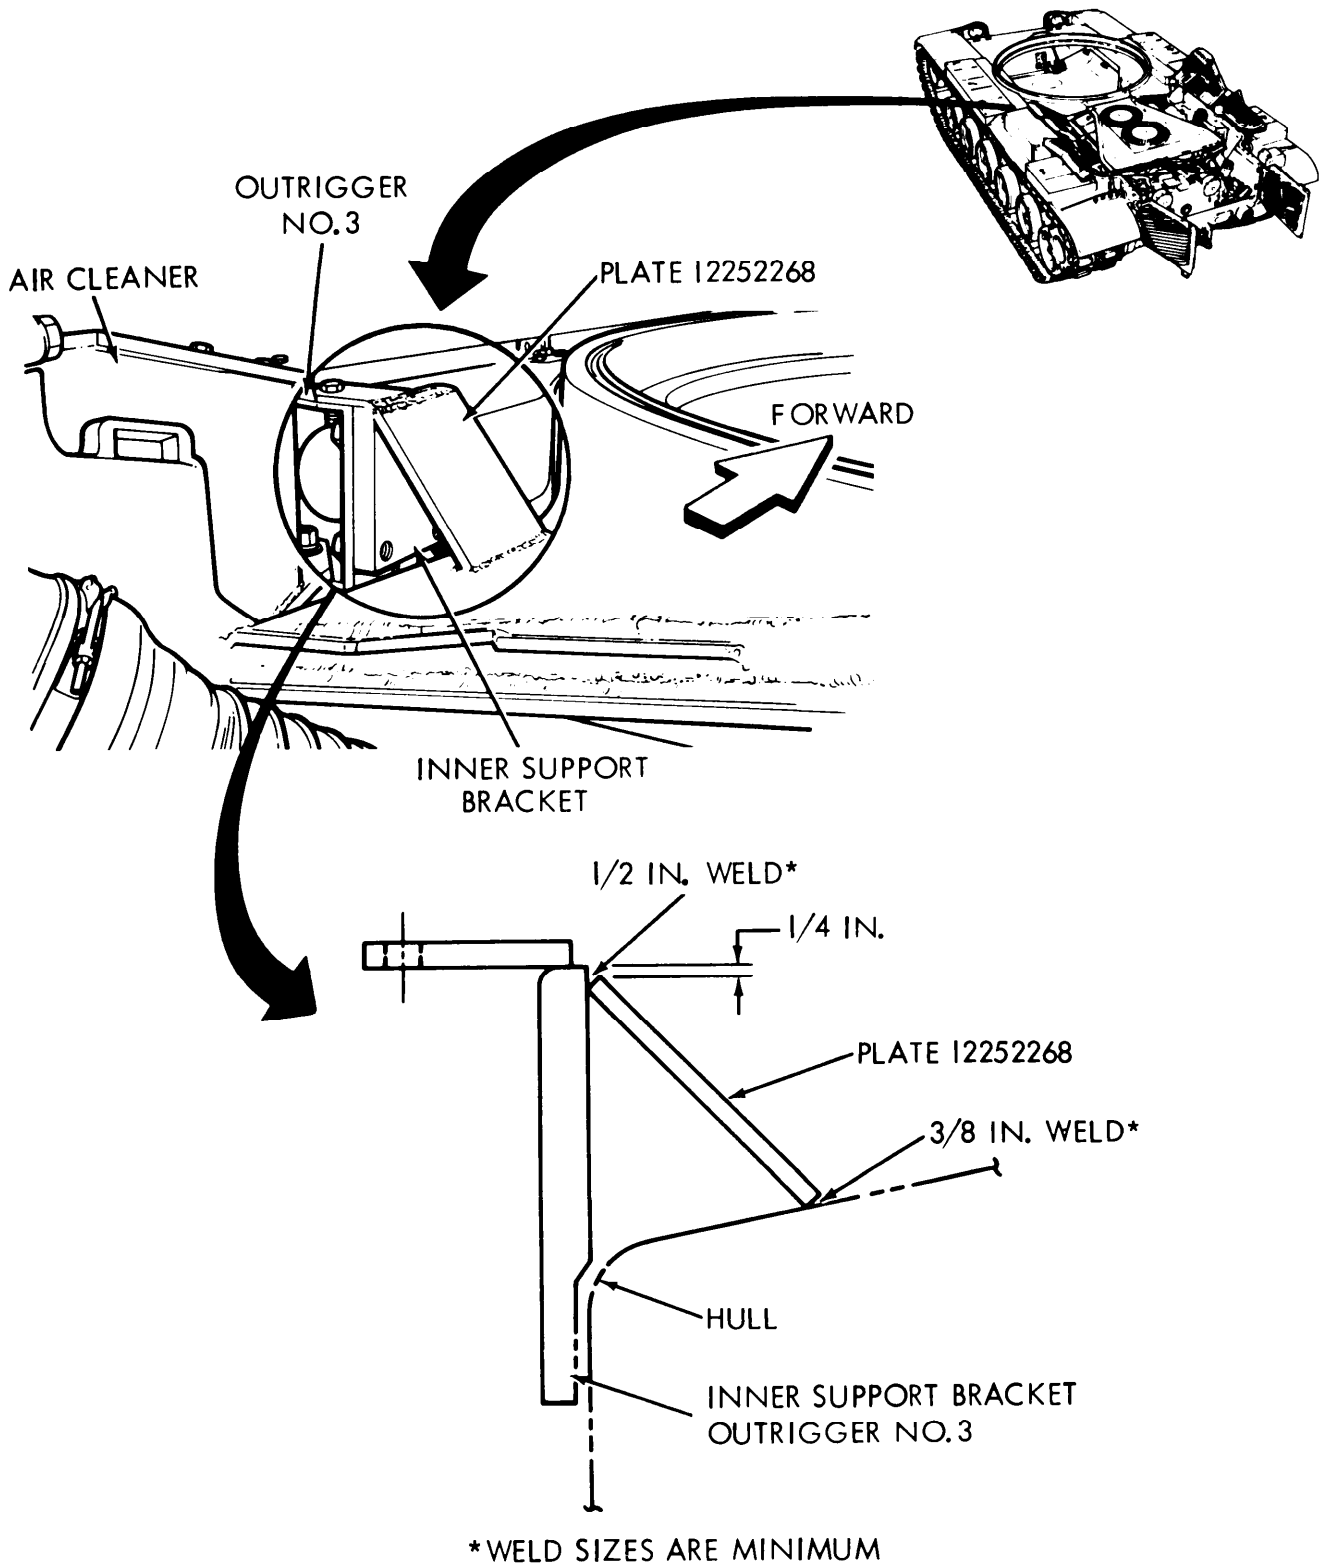

Figure 4-19. Left outrigger support plate installation.
- All welds must be performed to MIL-W-46086 (MR), Method 1. Use austenitic electrodes only (308 MOT 16 stainless or equivalent). Refer also to TM 9-237 Welding Theory and Application.
- (a) Obtain reinforcement plate 12252268 from kit and weld plate to number 3 outrigger inner support bracket (on left side of tank) and hull as shown in Figure 4-19.